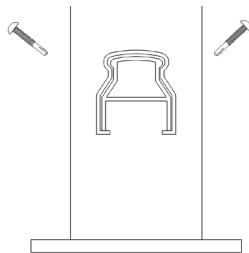

Figure 7
Fasten bottom rail through the middle of the angled sides of the bottom post bracket with (2) #10 x 3/4-in screws (Figure 7).